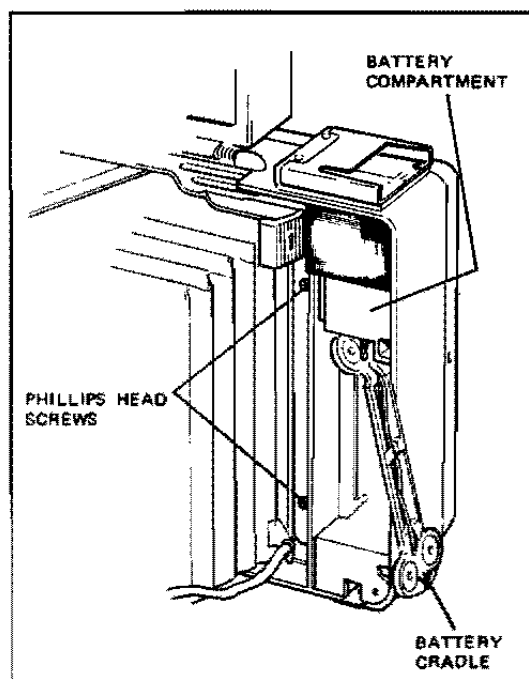

FIG. 4-29 RELEASING THE BATTERY COMPARTMENT
- Remove the two Phillips head screws holding the battery compartment to the body (Figure 4-29).